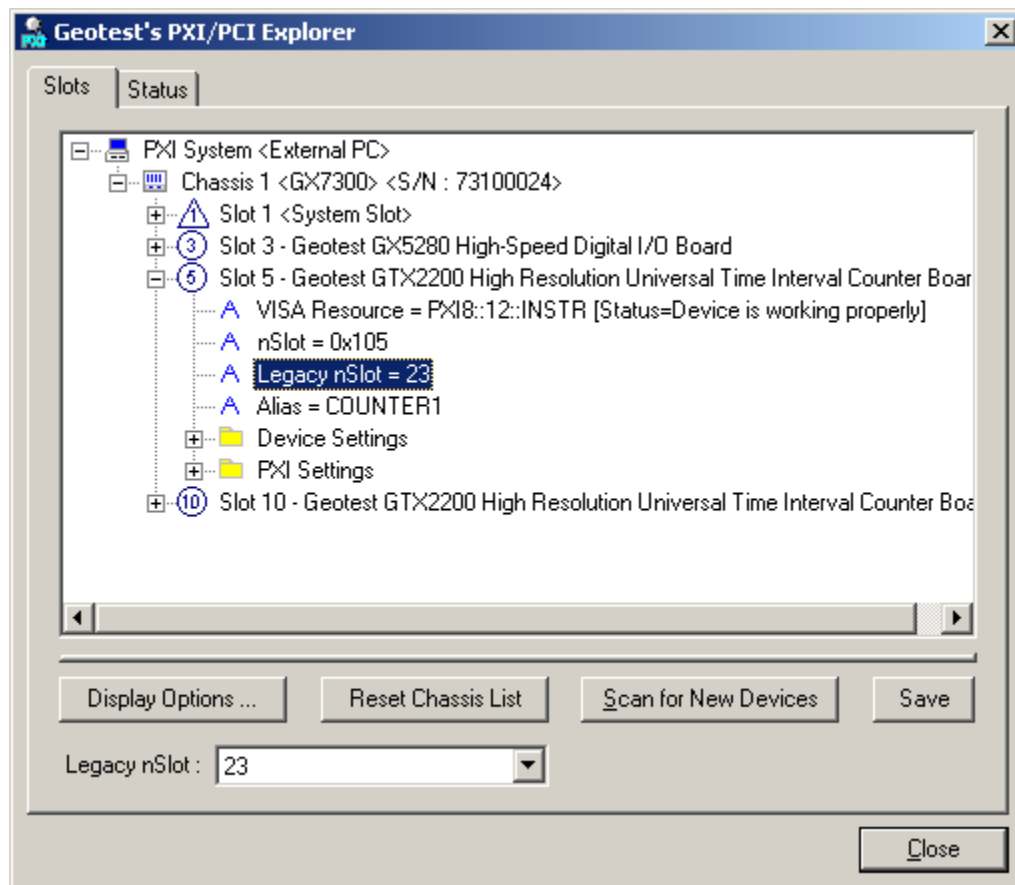

Figure 3-3: PXI/PCI Explorer
5. Carefully slide the PXI board to the rear of the chassis, make sure that the ejector handles are pushed **out** (as shown in Figure 3-3).
9. Plug the power cord in and turn on the PXI chassis' power switch. **Figure 3-3: Ejector handles position during module insertion**